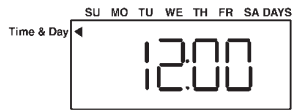

fig.10
- 2) Using the buttons **↓↑** set the current time (fig. 10).